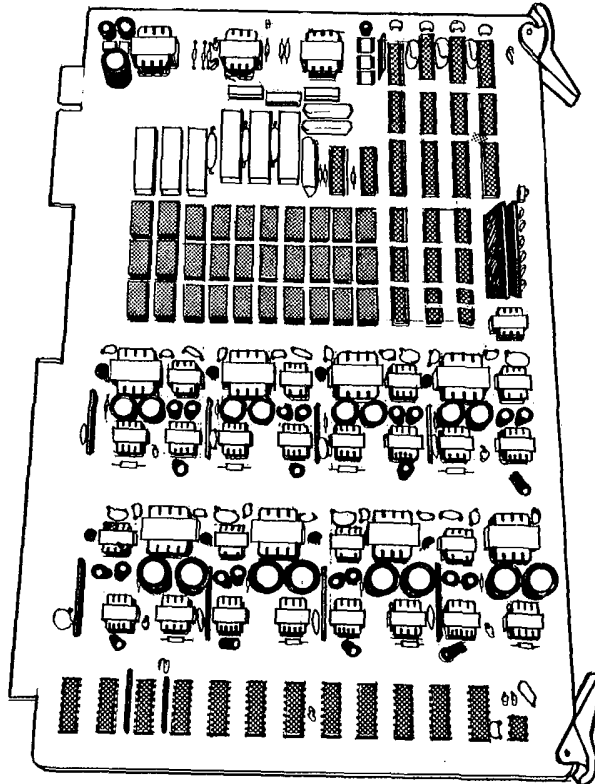

Figure 7-3 3X8U-TA PCB, EK-616
- (b) **3X8U-TA ( CO Line / Key Station Interface )**, ( Figure 7-3 ) which contains three line circuits, eight station circuits, one intercom voice switching ( talkback ) circuit and analog switching components for the lines, stations, and four ICM paths ( links ).